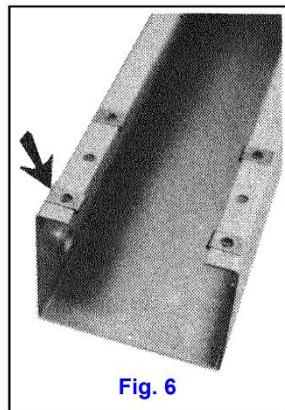

Fig. 6
3. **Assemble feet to rails.** Turn unit upside down. Push four #1024 Tinnerman nuts onto rail end flanges, using outer pair and inner pair of holes only (Fig. 6). Make certain that the plain round hole is on outside of flange. If accessory retractable casters are to be mounted, put Tinnerman nuts (from caster package) on middle holes also. See direction sheet supplied with casters.